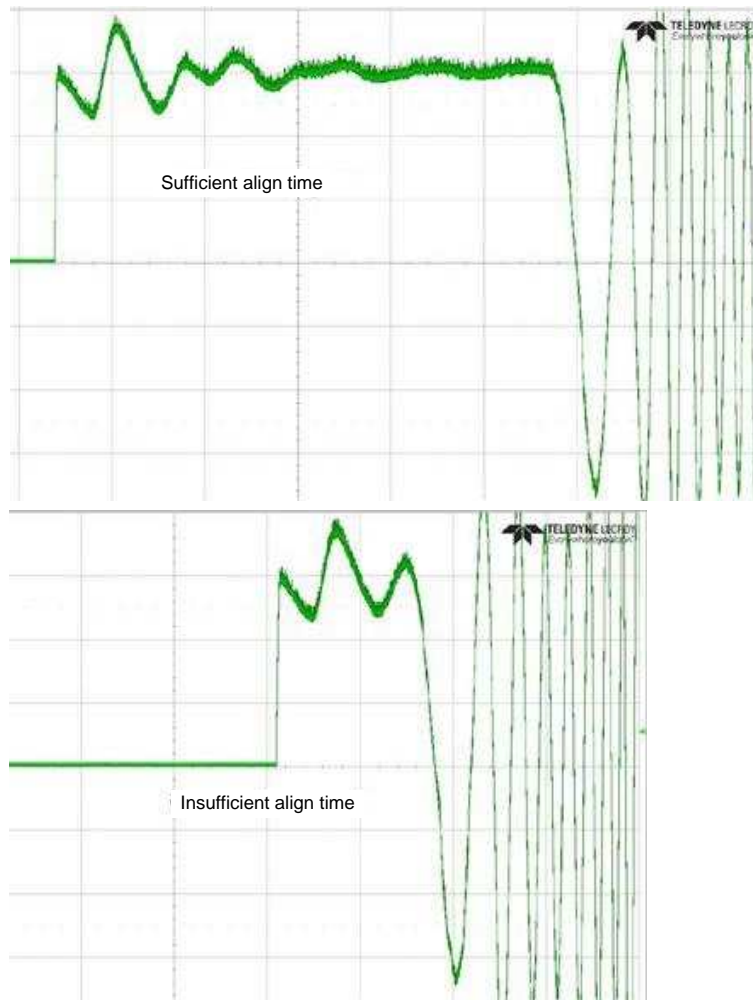

Figure 54. Sufficient versus Insufficient Align Time
1. The traditional align and go is to set the second order accelerate to 0.22 Hz/s², then set the align time to be long enough that the motor can basically stop during align. Figure 54 show a sufficient align time and an insufficient align time.